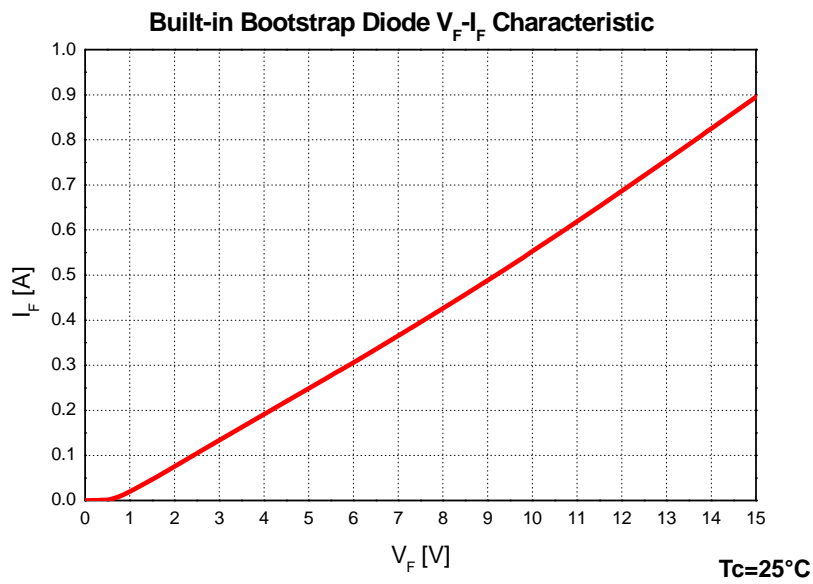

Figure 2. Built-in Bootstrap Diode Characteristics (Typical)
- Built-in bootstrap diode includes around 15 Ω resistance characteristic. Please refer to Figure 2.